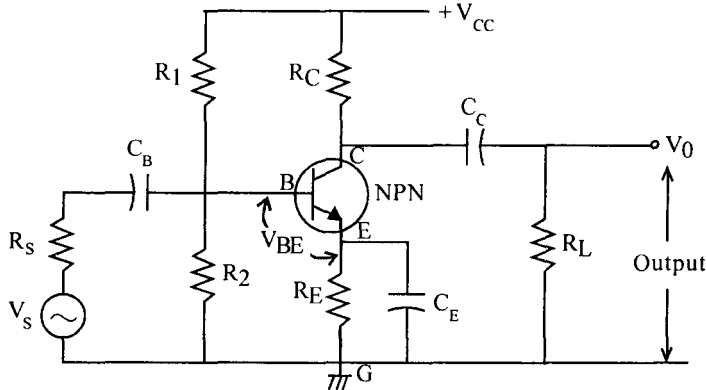

Fig 6.68 R.C coupled amplifier circuit.
The circuit is as shown in Fig. 6.68 In the A.C. equivalent circuit, the collector output of the transistor (BJT) is coupled to the output point V_0 through a resistor (R) and capacitor (C). R_L and C_0 are the coupling elements. So it is called R-C coupled amplifier.